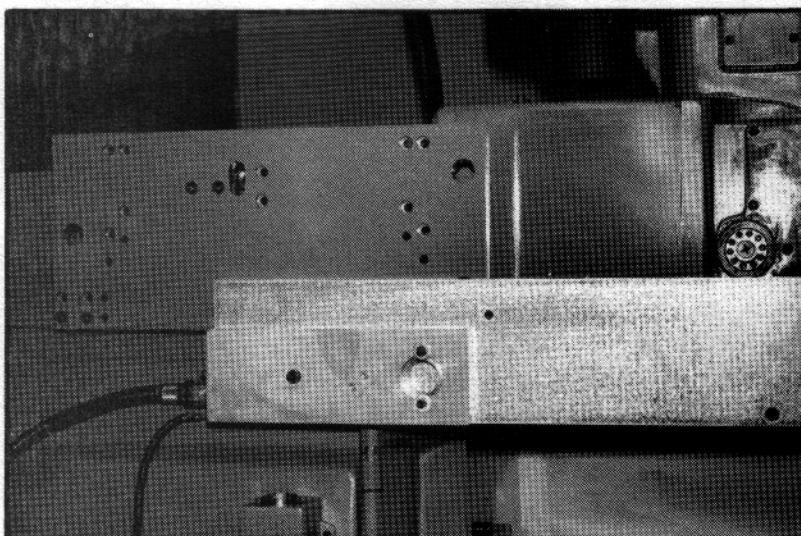

FIG. 2.9 DRILL JIG MOUNTED TO MILL
4. With the locating jig and mounting adapter plate attached to the tool holder in the spindle, swing it over to the mill ram. (See figure 2.9)
6. Position the mounting adapter plate by adjusting the threaded bushings in the brackets until contact is made with the surface of the milling machine (see Figure 2.9). There should be a minimum of .15 inches of bushing thread exposed beyond the end of each bracket.